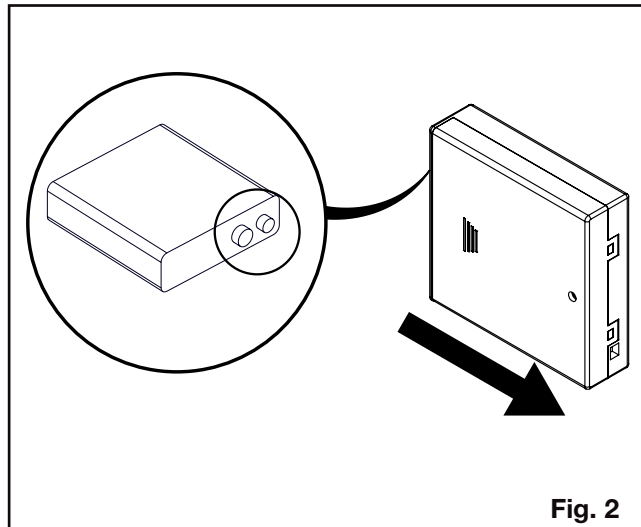

Fig. 2
3. Remove the screw on the battery holder with a small Phillips head screwdriver. Slide the cover away from the connectors to open it (**Fig. 2**).